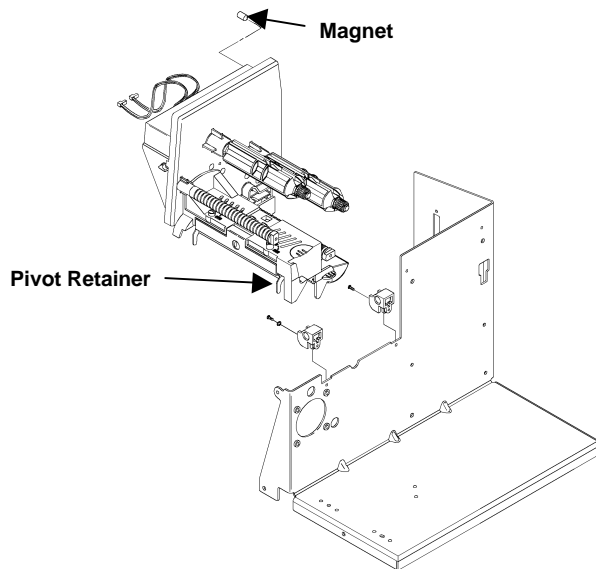

Figure 6-6. Print Assembly Plate & Printhead Module.
3. Remove the magnet from the tunnel housing on the side facing the Control Board Assy. See Figure 6-6. Save the magnet.